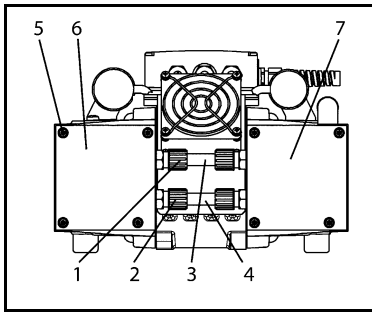
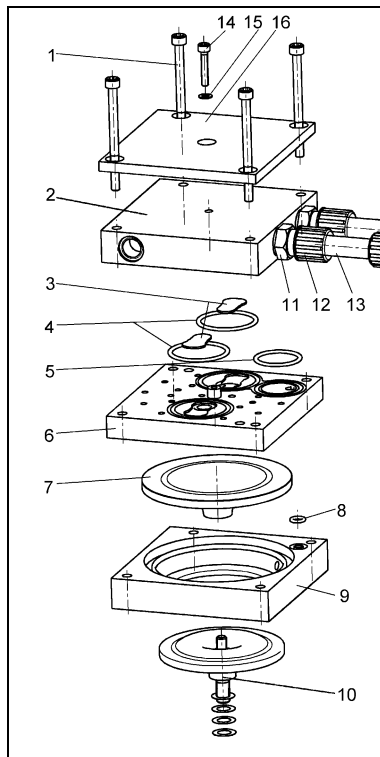

Fig. 21: Removing pump head
Fig. 22: Replacing diaphragm and valve plates (1. and 2. pump head)
1. At the pneumatic connections (3, Fig. 21) and (4) between the first and second pump head: Use pliers to loosen union nuts (1) and (2) by turning them counterclockwise.
2. At the first pump head (6, Fig. 21) mark the position of top plate (16, Fig. 22), head plate (2), intermediate plate (6) and adapter (9) relative to each other by a drawing line with a felt-tip pen. This helps to ensure proper assembly.
3. At the first pump head unscrew the four screws (1, Fig. 22) and screw (14); remove the top plate (16) and head plate (2). Intermediate plate (6) is visible.
4. Take off intermediate plate (6) from adapter (9).
Then use pliers to securely tighten (turn in clockwise direction) the two union nuts (12, Fig. 22) at the two pneumatic connections (13) between pump heads 1 and 2.